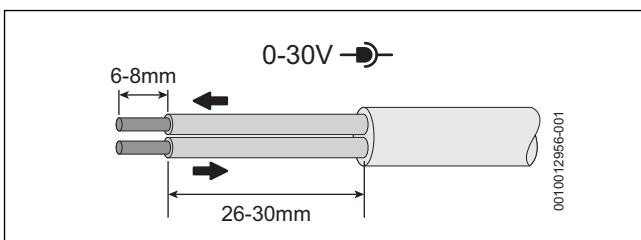

Fig. 57 Low voltage (signal cables) preparation
**Low voltage (signal cables), example → figure 57**